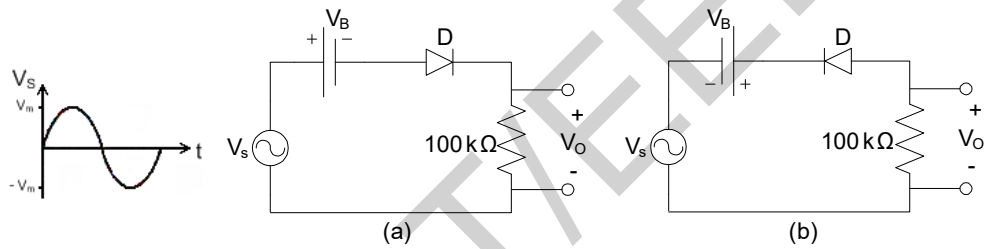

Figure 3.6: Experimental Circuit 1.
1. Connect the circuit as shown in the figure 3.6. Using a sinusoidal voltage source with 5 volts peak ( $V_m$ ).